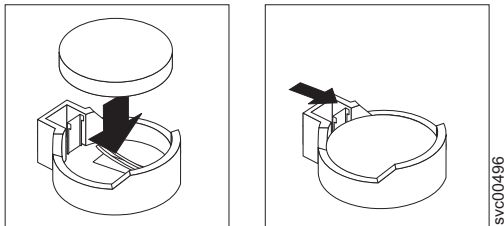

Figure 141. Installing the SAN Volume Controller 2145-8A4 CMOS battery
- c. Press the battery down into the socket, as shown in Figure 141, until it clicks into place. Make sure that the battery clip holds the battery securely.